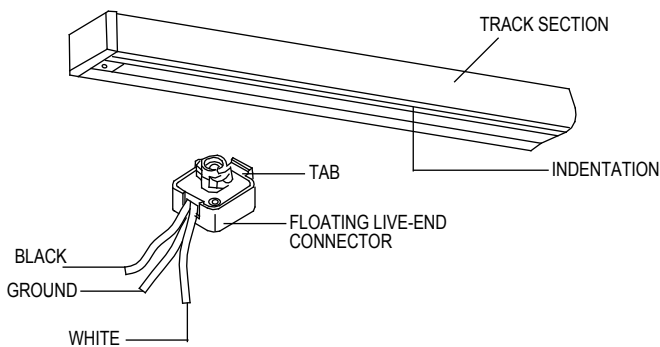

FIG. 2
1. The track section and floating live-end connector must be assembled so that polarity between conductors is maintained. NOTE: The floating live-end connector has a tab on one side and the track has an indentation which runs the length of the track channel (Refer to Figure 2). Align the floating live-end connector tab with the track indentation and insert the floating live-end connector into the track channel so that the base of connector fits flush against the track twist connector clockwise 1/4 (one quarter) turn so that the connector fits snugly against the track.